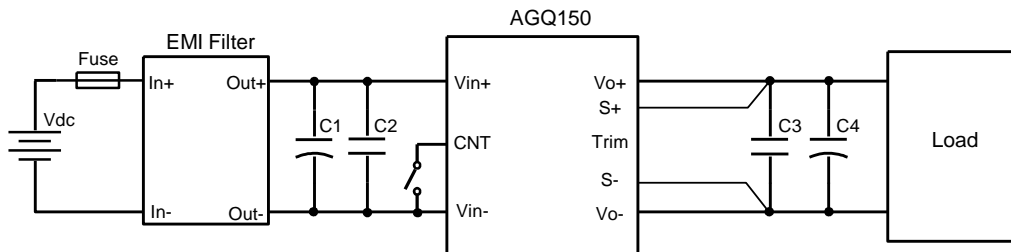

Figure 11 Typical application
Figure 5 Dynamic response for 25% load step (25% ~ 50% ~ 25%) and 0.1A/ μ s slew rate, (2ms/div), see Figure 11 for test configuration; CH1-output voltage (100mV/div); CH2-output current (10A/div)
Figure 6 Dynamic response for 25% load step (50% ~ 75% ~ 50%) and 1A/ μ s slew rate, (2ms/div), see Figure 11 for test configuration; CH1-output voltage (50mV/div); CH2-output current (10A/div)
- C1 ~ C4: See Figure 11